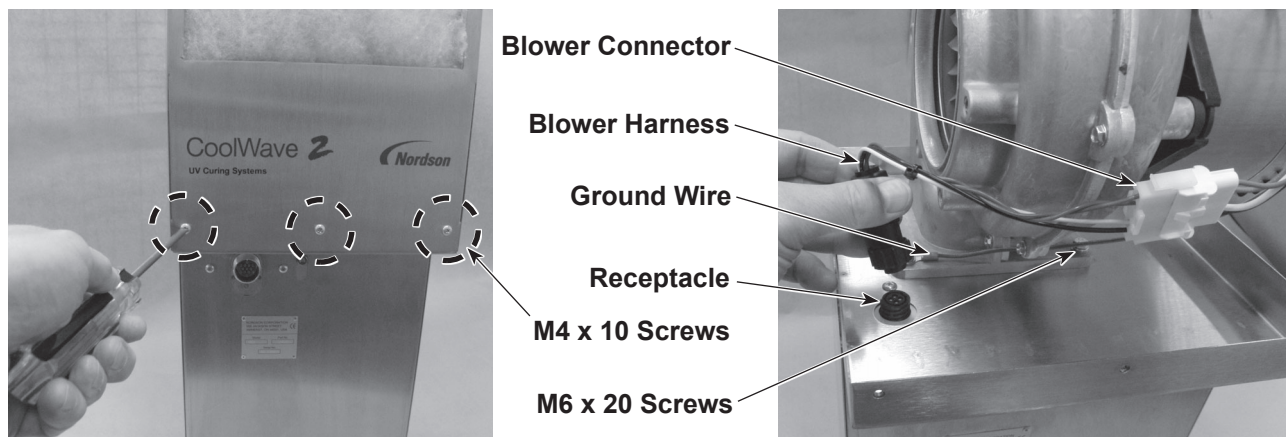

Figure 6-12 Removing Blower Cover
1. See Figure 6-12. Remove the blower cover by removing the six M4 x 10 Philips head screws (three front and three rear). Set the blower cover aside.